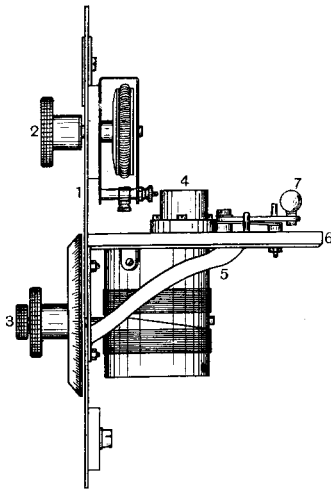

Fig. 2.
An example of the construction referred to is given in Fig. 2, where (1) is the metal panel, which preferably is made of brass, with its surface oxydised, so that indications such as aerial tuning may be engraved through the oxidised layer, exposing the metal. This panel may readily be stamped with all necessary openings in it for fastening screws, for the passage of control handles, etc.